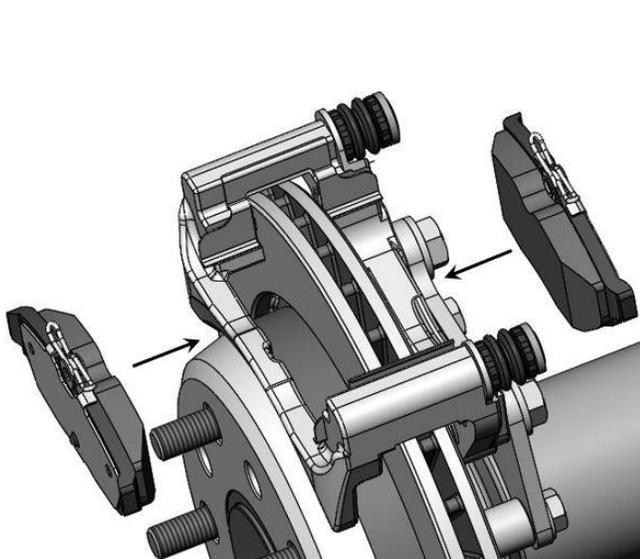

Figure 7a – Brake Pad Installation
11. With the Abutment Clips installed, Install the pads into the Caliper Anchor Bracket. Refer to Figure 7a on the next page for reference. Once the pads are installed slide the caliper body over the brake pads and Caliper Anchor Bracket. With the caliper in place, re-install the caliper mounting bolts between the caliper and the bracket. Torque the bolts to 30 lb/ft. **IMPORTANT:** Make sure that the bleeder screw is pointing upward. See Figure 7b on the next page for reference on installing the caliper.